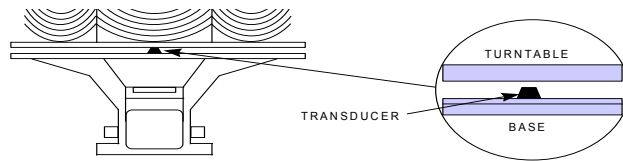

Figure 3-39
- (1) Remove the Glazing by releasing the 8 thumb latches located on the lower ring of the glazing assembly by rotating them 180 degrees. Carefully lift the glazing **straight** up from the beacon and set aside.
- (2) Look between the Base and Turntable above the CALC-20 housing for the Tacho Transducer. It should be visible against the circuit board on the Stator (a flashlight may be used). Note if any wires appear to be rubbing on the Turntable and if wires are passing above the Tacho Transducer, as shown in Figure 3-39.